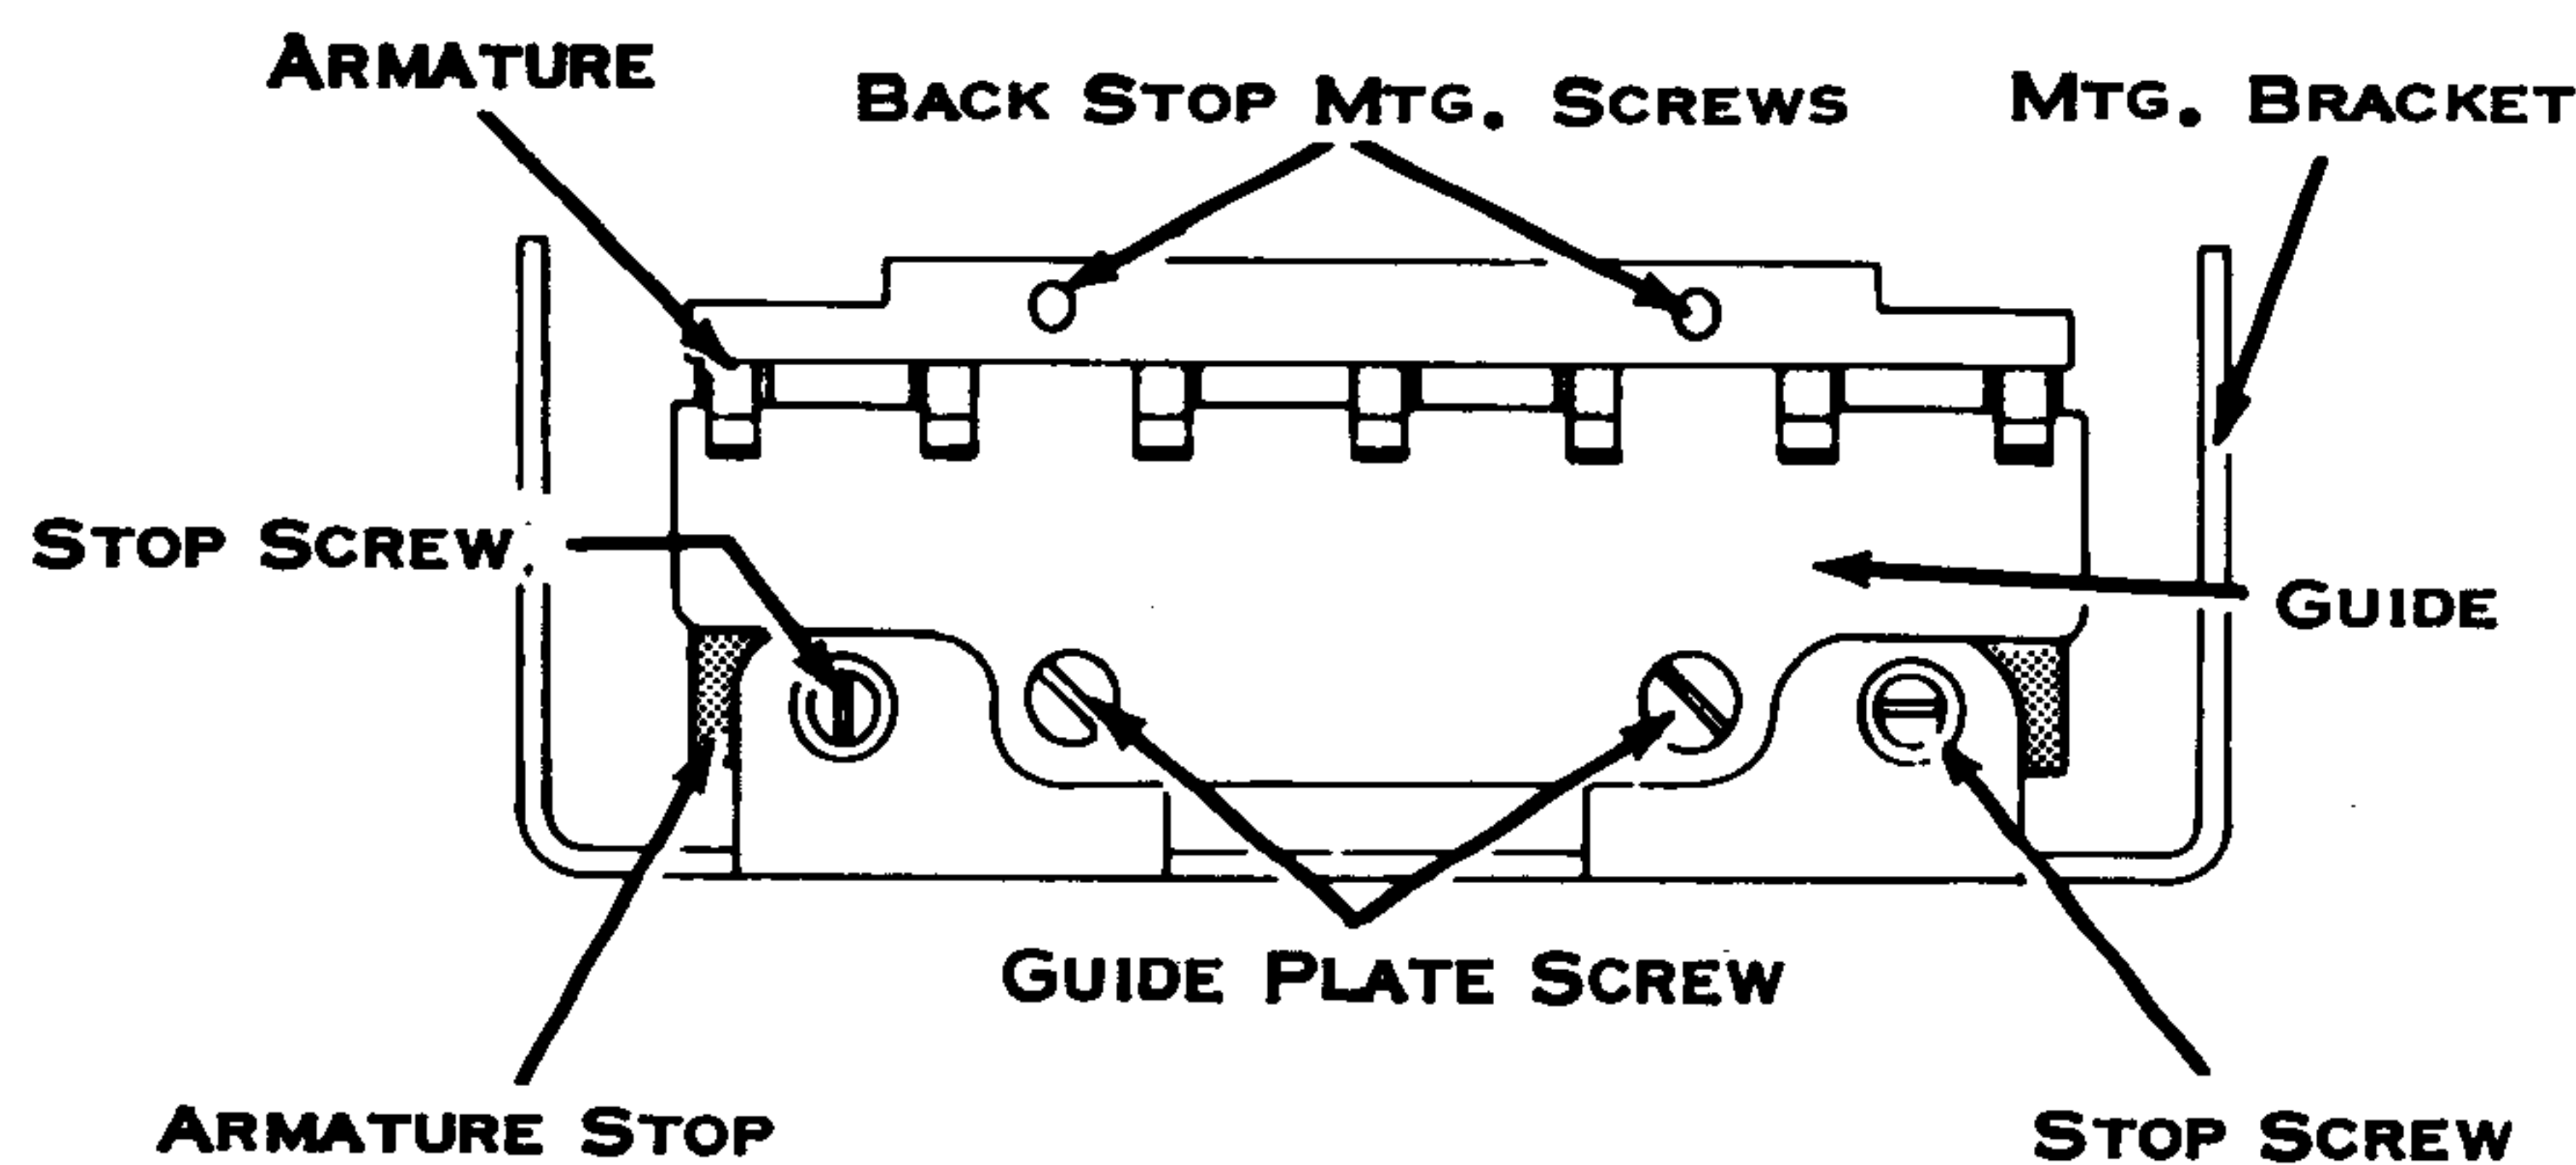
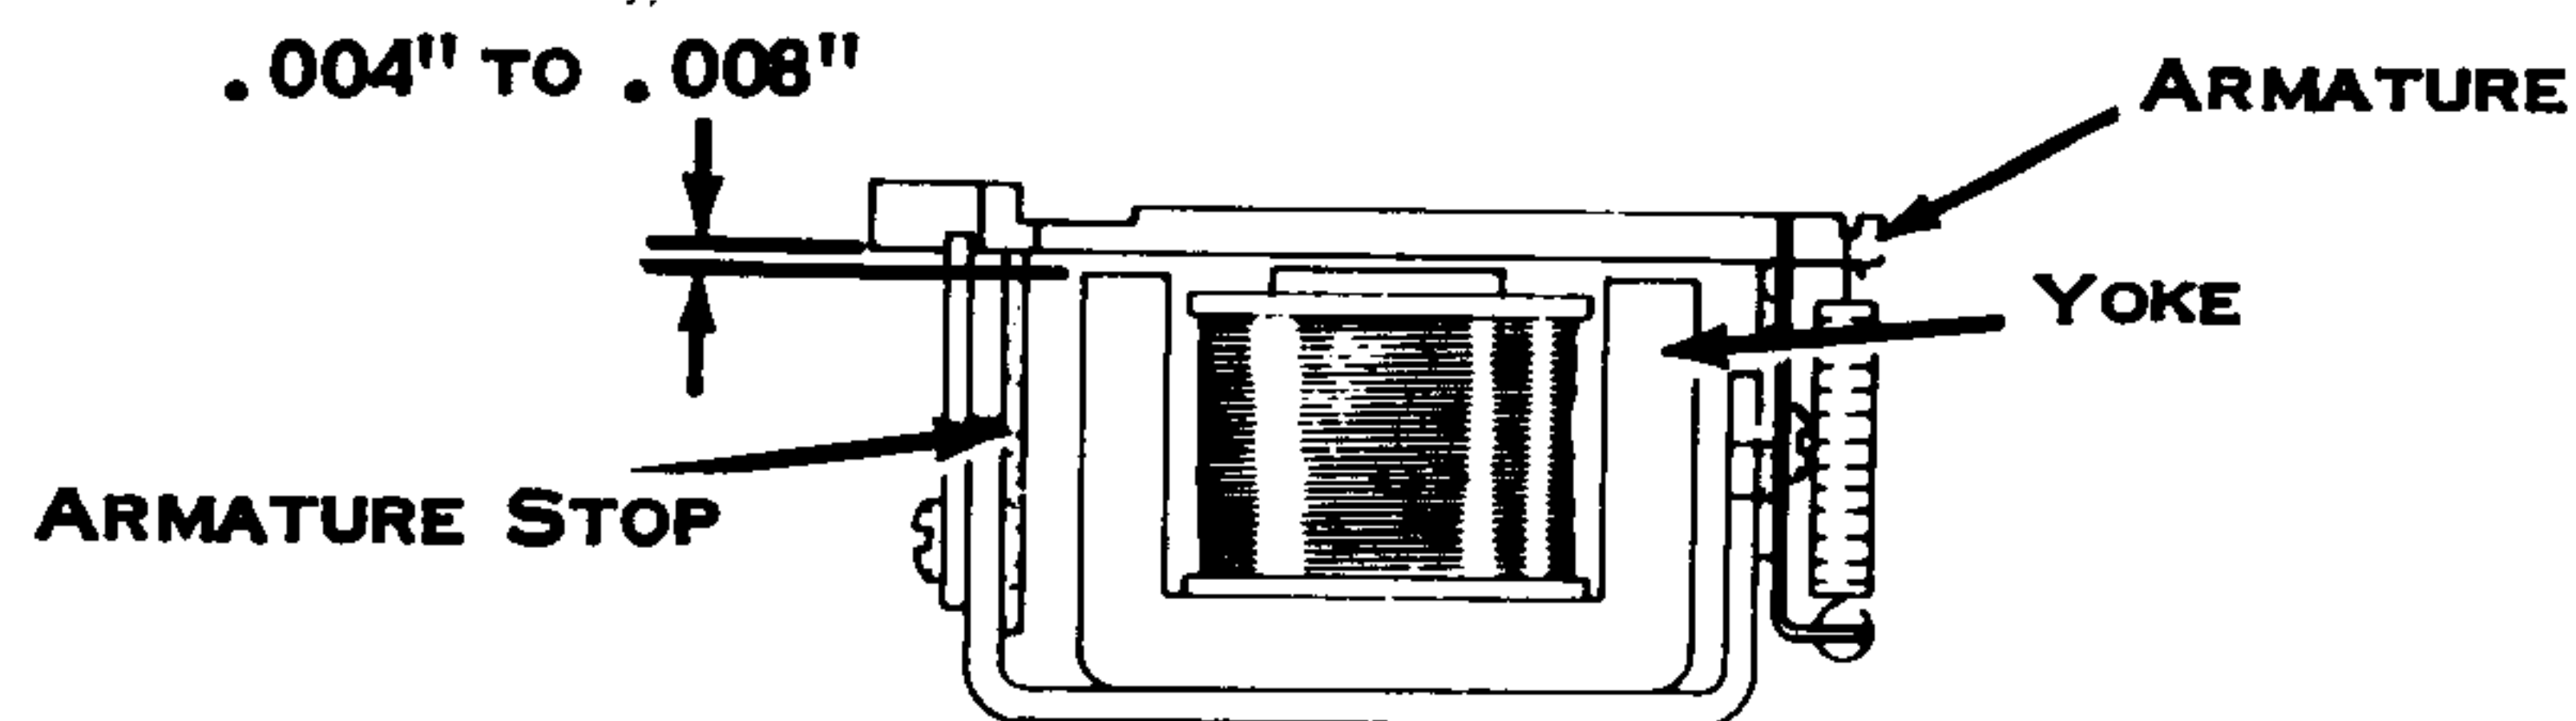

Figure 21. Armature Stop
Figure 22. Armature Stop
3. Armature Stop - With the armature manually attracted, adjust for a clearance of .004" to .008" between the armatures and yokes (Fig. 22 - see Fig. 21 for assembly end view). Measure clearances at the outside armatures (T2 & R5).
4. Armature Guide - Position horizontally so that the armatures are centered in the guide slots (Ref. Fig. 21).